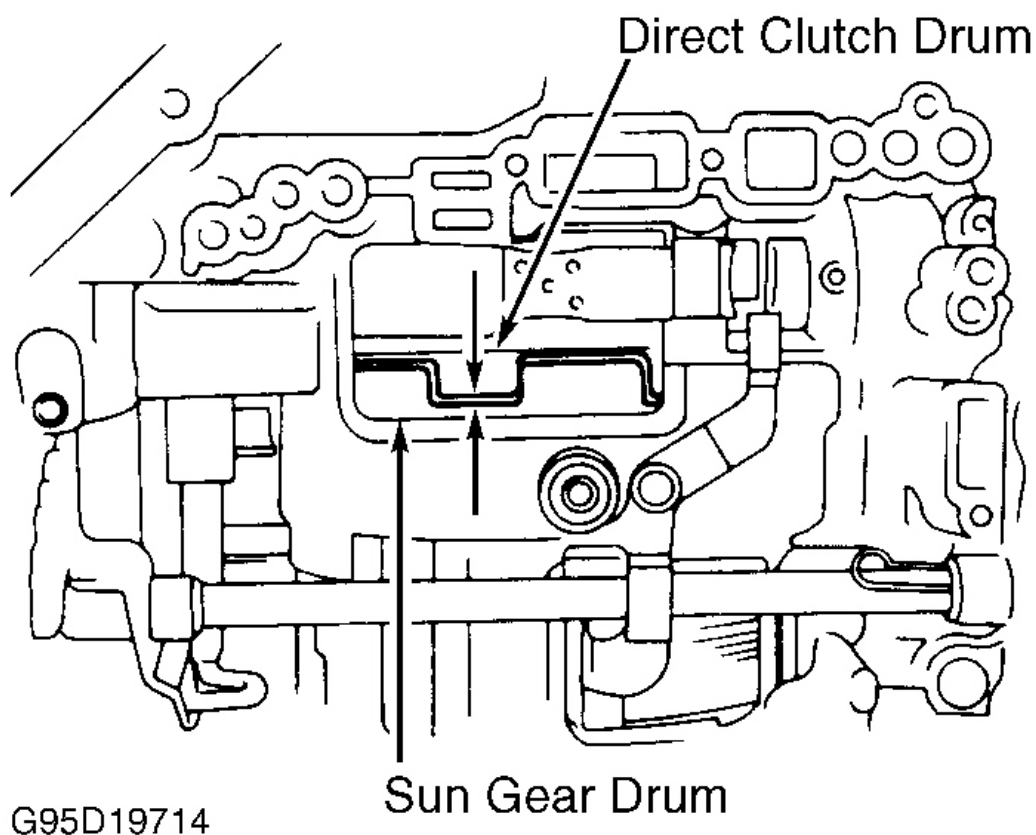

Fig. 84: Checking Direct/Forward Clutch Drum Assembly Installation
25. Rotate forward clutch to mesh with front planetary gear and discs. Install direct clutch and forward clutch into transaxle case. Check installation of direct/forward clutch assembly. Measure distance between direct clutch and sun gear drum (shell). See **Fig. 84**. Distance should be .118" (3.0 mm).